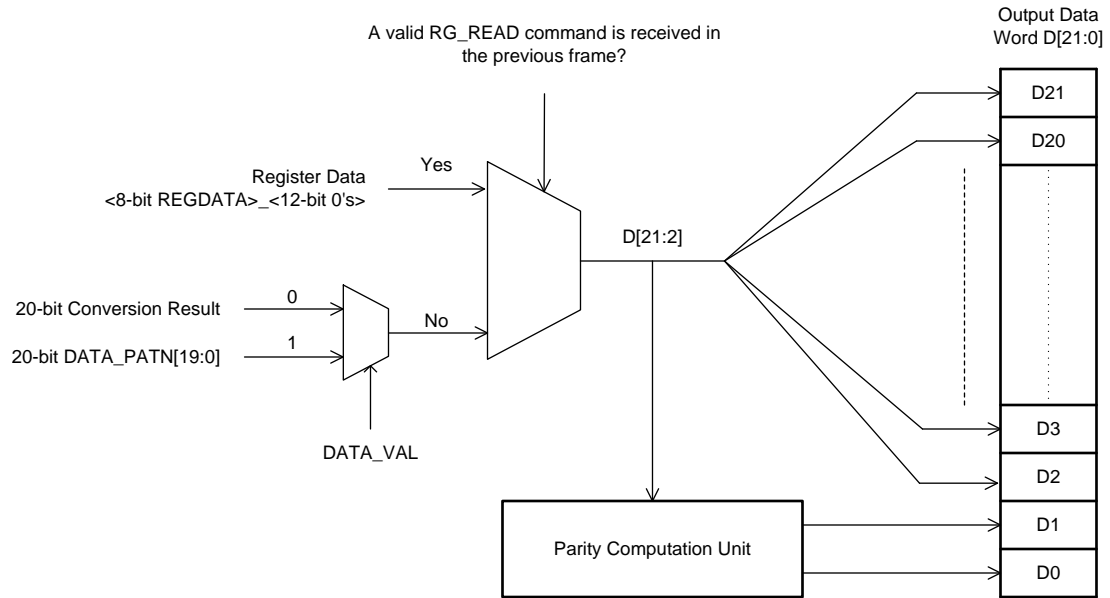
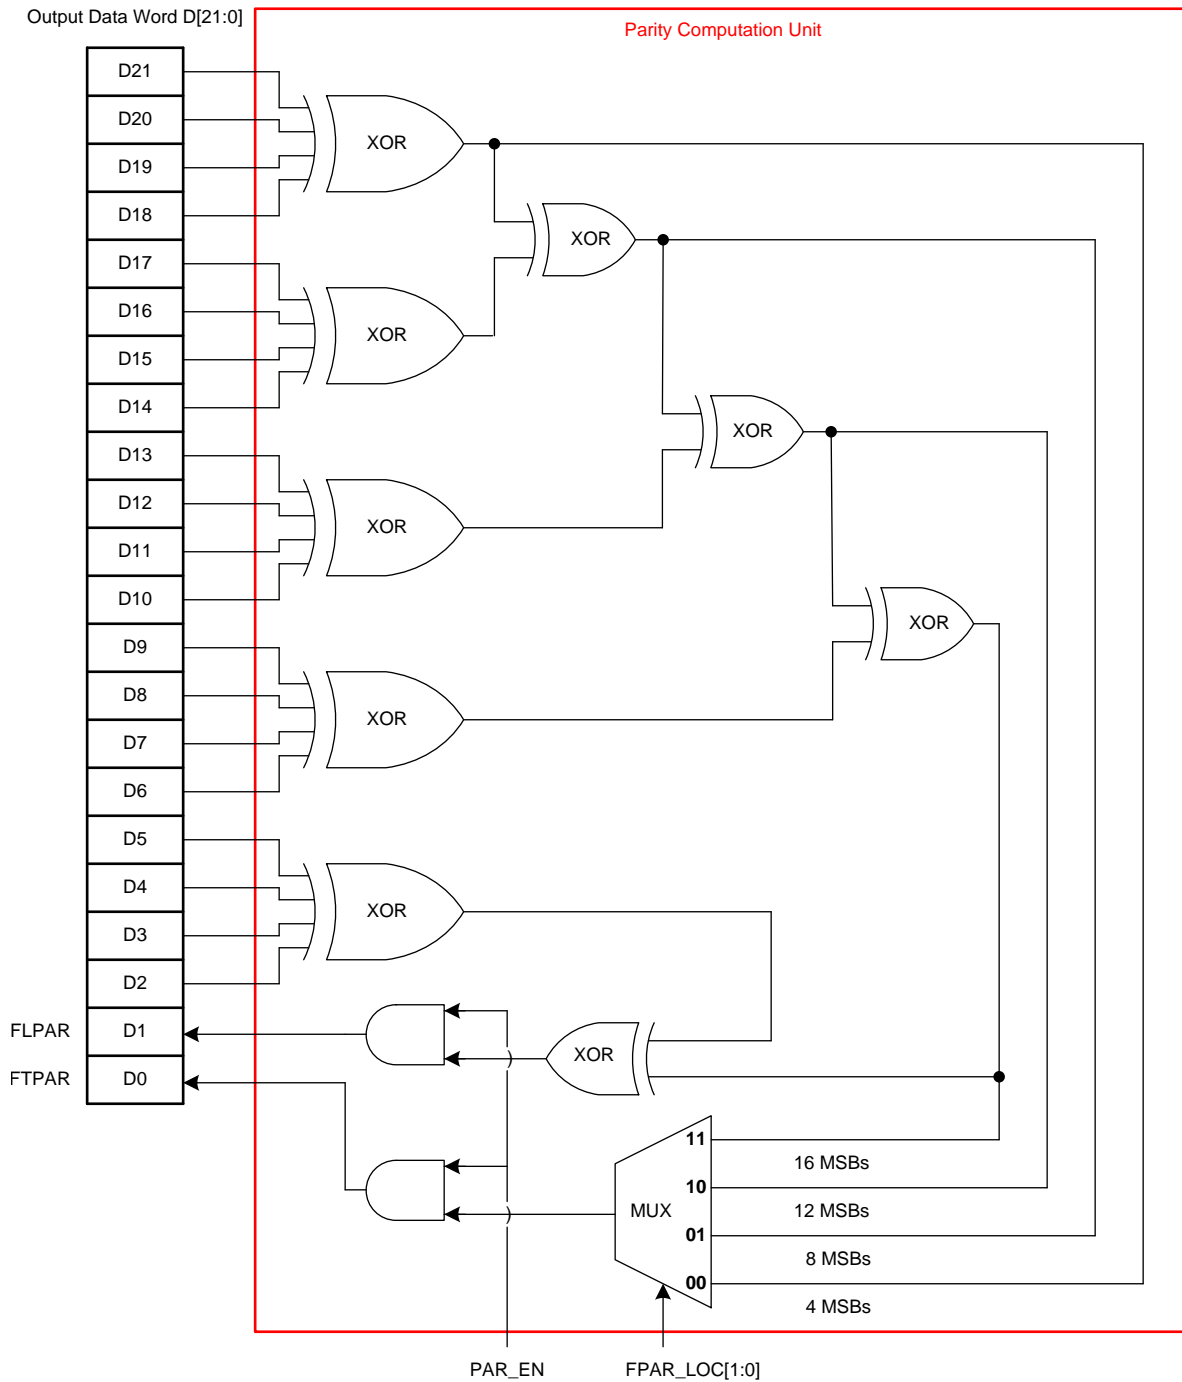
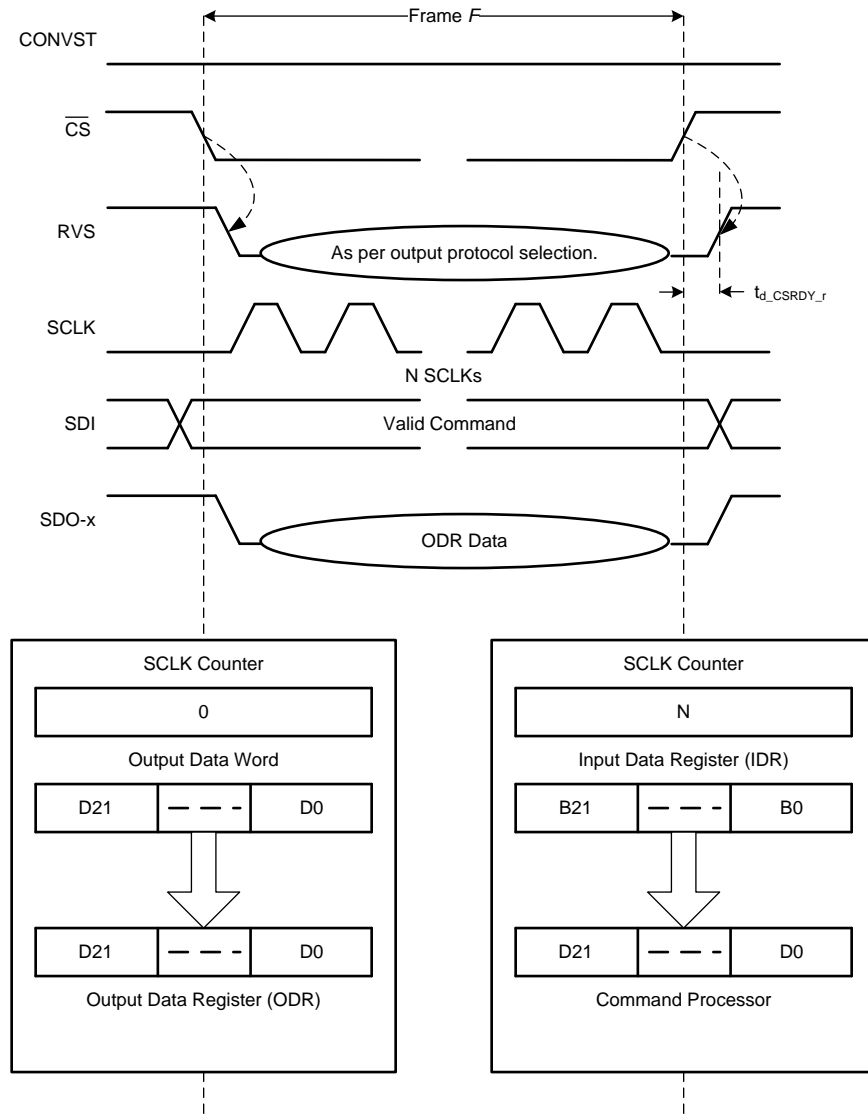

Figure 43. Output Data Word ( $D[21:0]$ )
Figure 44. Parity Bits Computation
Figure 45. Data Transfer Frame
Figure 43 shows the output data word. Figure 44 shows further details of the parity computation unit illustrated in Figure 43.
A data transfer frame between the device and the host controller is bounded between a  $\overline{CS}$  falling edge and the subsequent  $\overline{CS}$  rising edge. The host controller can initiate a data transfer frame (as shown in Figure 45) at any time irrespective of the status of the CONVST signal; however, the data read during such a data transfer frame is a function of relative timing between the CONVST and  $\overline{CS}$  signals.
- The device takes control of the data bus. As shown in Figure 45, the 22-bit contents of the output data word (see Figure 43) are loaded in to the 22-bit output data register (ODR; see Figure 39).
- As illustrated in Figure 45, the 22-bit contents of the IDR are transferred to the command processor (see Figure 39) for decoding and further action.
In a short command frame, the write operation to the device is invalidated; however, the output data bits transferred during the short command frame are still valid output data. Therefore, the host controller can use such shorter data transfer frames to read only the required number of MSB bits from the 22-bit output data word. As shown in Figure 43, an *optimal read frame* for the ADS890xB devices must read only the 20 MSB bits of the output data word. The length of an optimal read frame depends on the output protocol selection; see the Protocols for Reading From the Device section for more details.